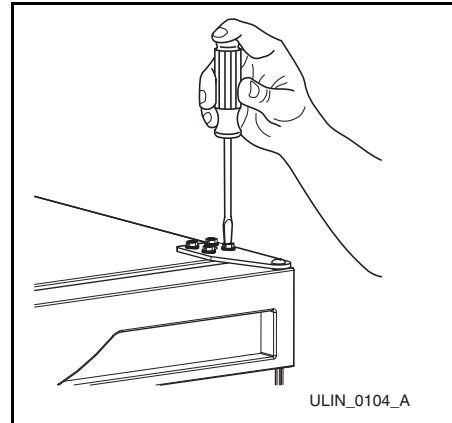

Figure 13
2. Remove top hinge from cabinet (four screws) (**Figure 13**). Hold door to keep it from falling.